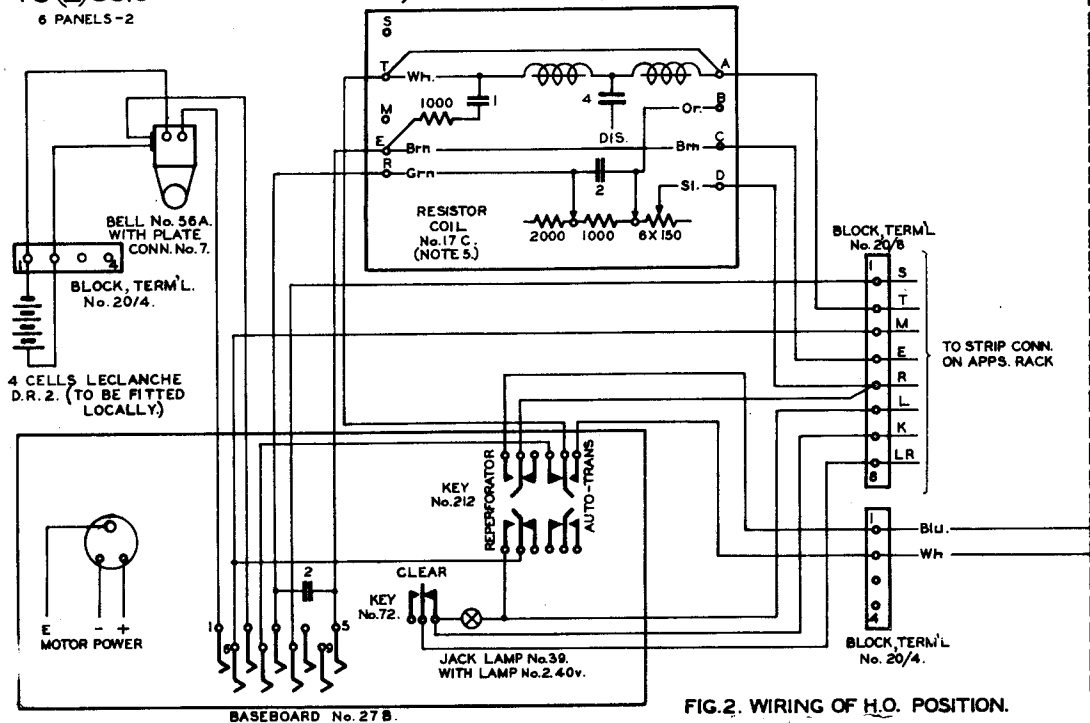

FIG. 2. WIRING OF H.O. POSITION.
- HEAD OFFICE POSITION. (FIGS.2 & 4)